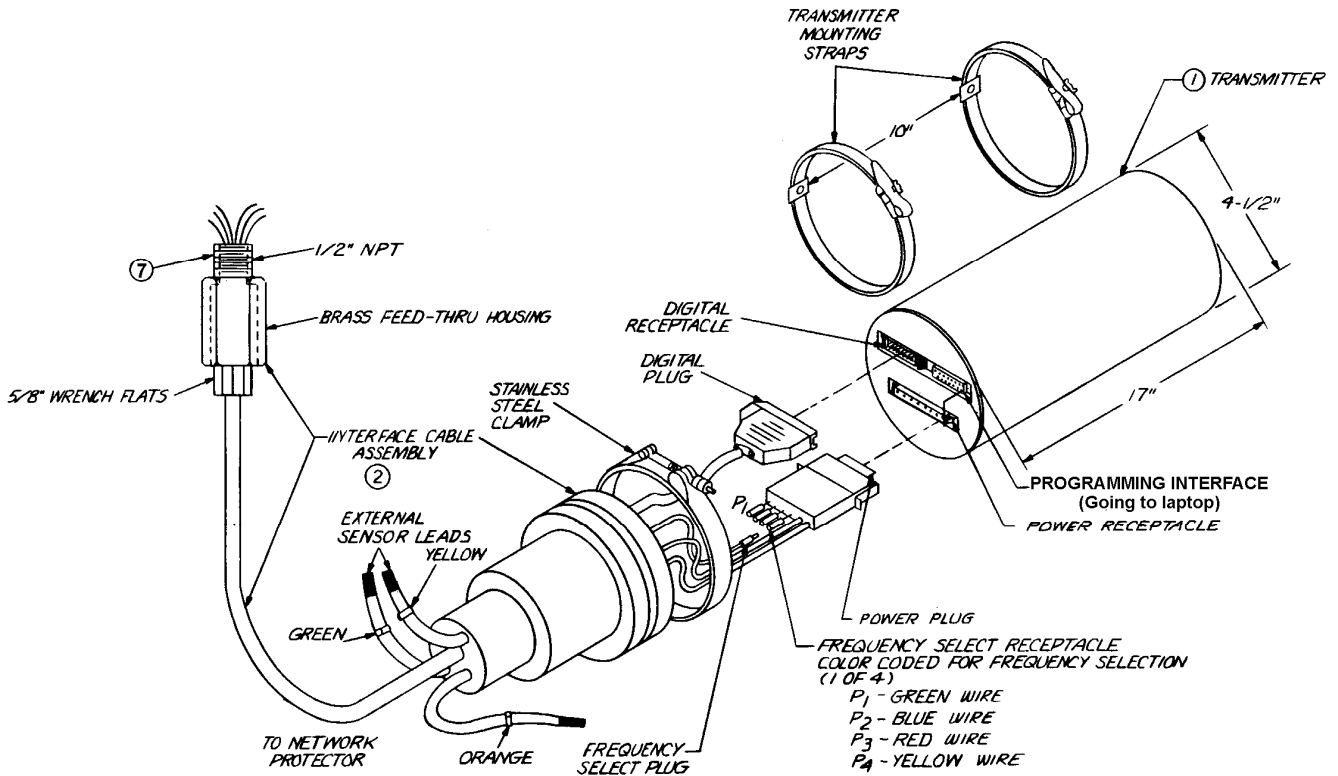

FIGURE 2
The interface cable assembly is supplied with two connectors and a rubber boot molded onto one end, three sealed two-wire rubber-covered cables, and a cable with a pressure seal containing loose wires at the opposite end. The rubber boot end is attached to the monitor transmitter. The three sealed two-wire rubber-covered cables are attached to switches outside the network protector as directed on the transformer installation drawing. The cable with the pressure seal containing loose wires is routed through the network protector case and attached inside the network protector (see Figure 2).
2.3.1 Connect the transmitter to the interface cable. The rubber boot end of the interface cable is attached to the transmitter by connecting the electrical plugs per Figure 2 and in the following order: